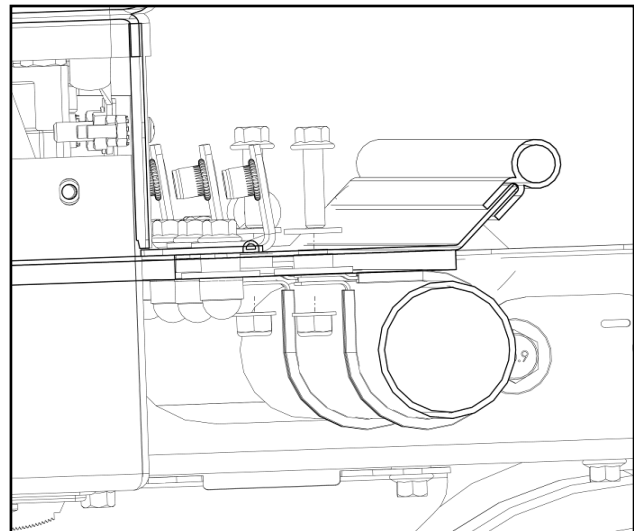

Fig. 12.3 Install P-Clamps onto ROPS
- 12.3** Install P-clamps onto the vehicle's ROPS per fig. 12.3. Next, loosely install all fasteners to the roof so that the smaller diameter plastic washers are under the heads of the screws and the larger diameter steel washers are between the P-Clamps and headliner.